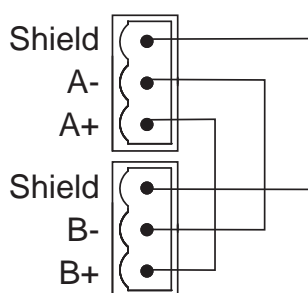

Figure 6-10: Wiring details for standalone VN model detector
- When a VN model detector is not used in a VESDAnet loop and is to be used as a stand-alone detector the VESDAnet terminals must be wired as per Figure 6-10.